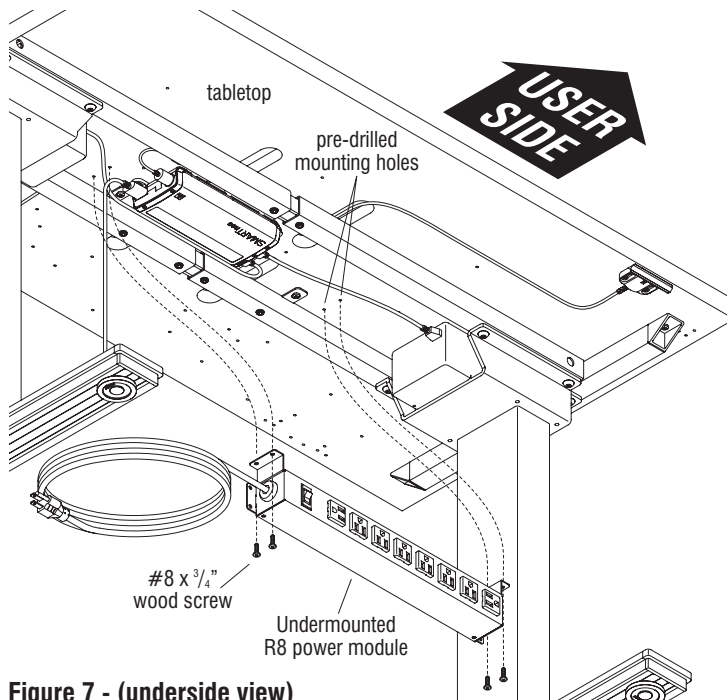

Figure 7 - (underside view)
1. Position the Undermounted R8 power module to the underside of the tabletop at the desired pre-drilled mounting location. Assure that the power cord can be routed easily to a power source (Figures 7 & 8).
2. Align the pre-drilled mounting holes of the R8 power module with the drilled mounting holes underneath the tabletop. Secure the R8 power module to the tabletop using four #8 x 3/4" wood screws. Take care to not over tighten (Figures 7 & 8).